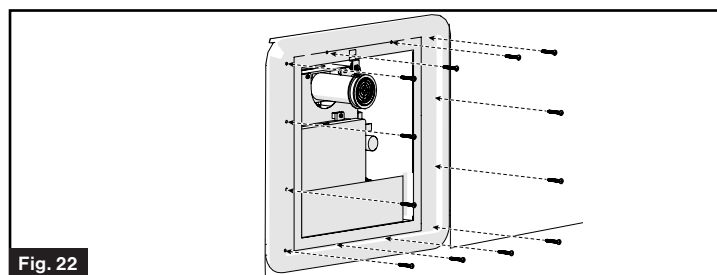

Fig. 22
2. Secure the flange to the vehicle using 12 - #8 (min 1") pan head screws (not provided) through each hole along the perimeter. Verify that a tight seal exists between the side wall and the flange. (Fig. 22)